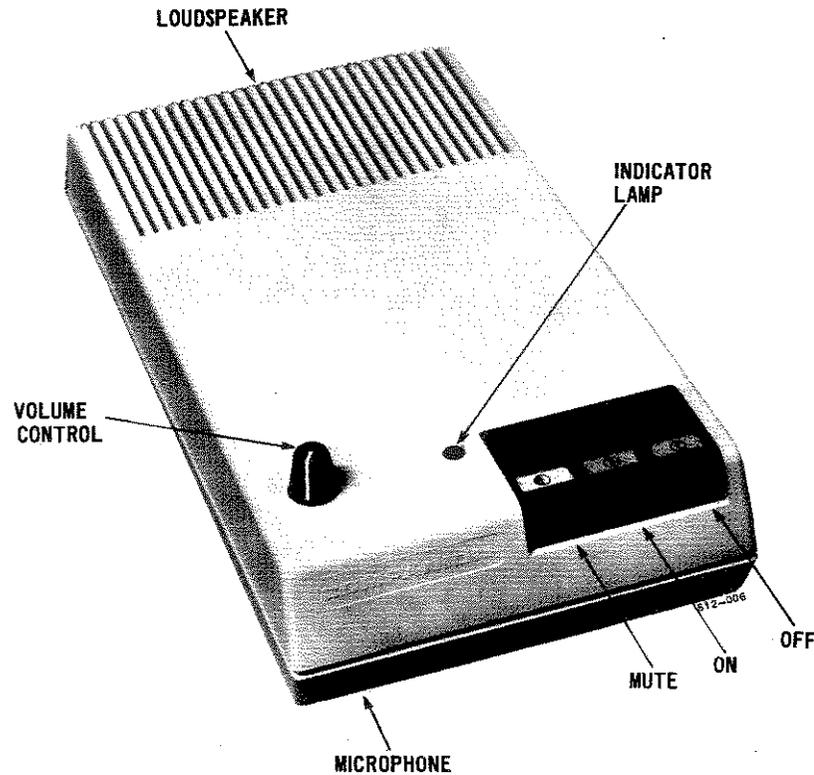

Fig. 2 — QUS1B — COMPANION 2 — HFU
- QUS1B COMPANION 2 (Fig. 2) – a cord connected unit, primarily used in business locations
2.14 *QUSIB, COMPANION 2 (Fig. 2)*. This unit is designed to be used in business applications and is compatible with rotary or pushbutton dial